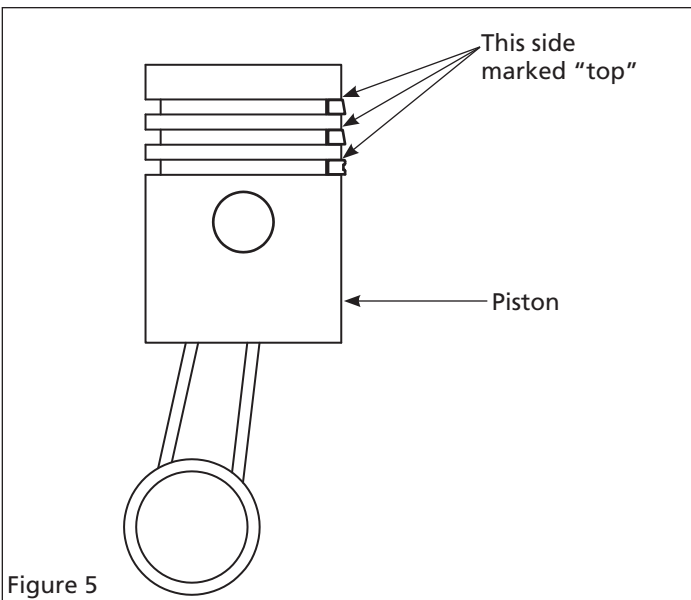

Figure 5
3. Replace rings. Make sure that the sides of all the rings that are marked "top" are facing upwards, towards the top of the piston. If the rings are installed upside down, the compressor will pass oil through the system (see Figure 5). Orientate ends 180° opposite from each other.